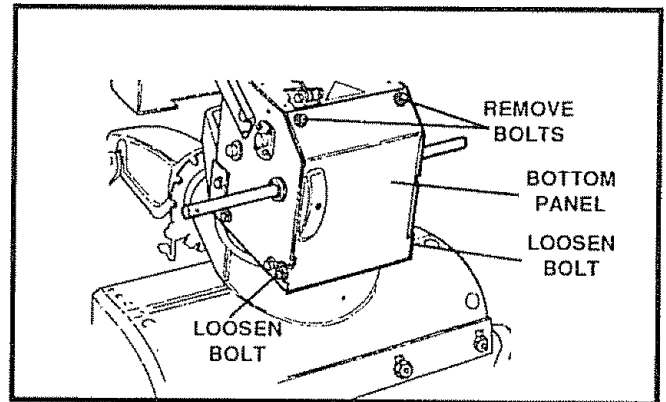

FIG. 30
- Remove the bottom panel (See Fig. 30)